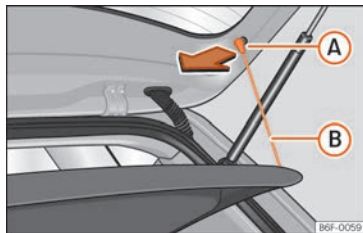

Fig. 124 In the luggage compartment: removing and fitting the shelf.
- Detach the cord loops »» Fig. 124 (B) from their hooks (A).
- Hook the loops »» Fig. 124 (B) to the rear lid.